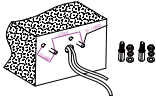

Figure 3-1
Step1: Use a tool to punch two 67MM holes on the wall and then insert 2 expansion screws into the holes, Figure 3-1;